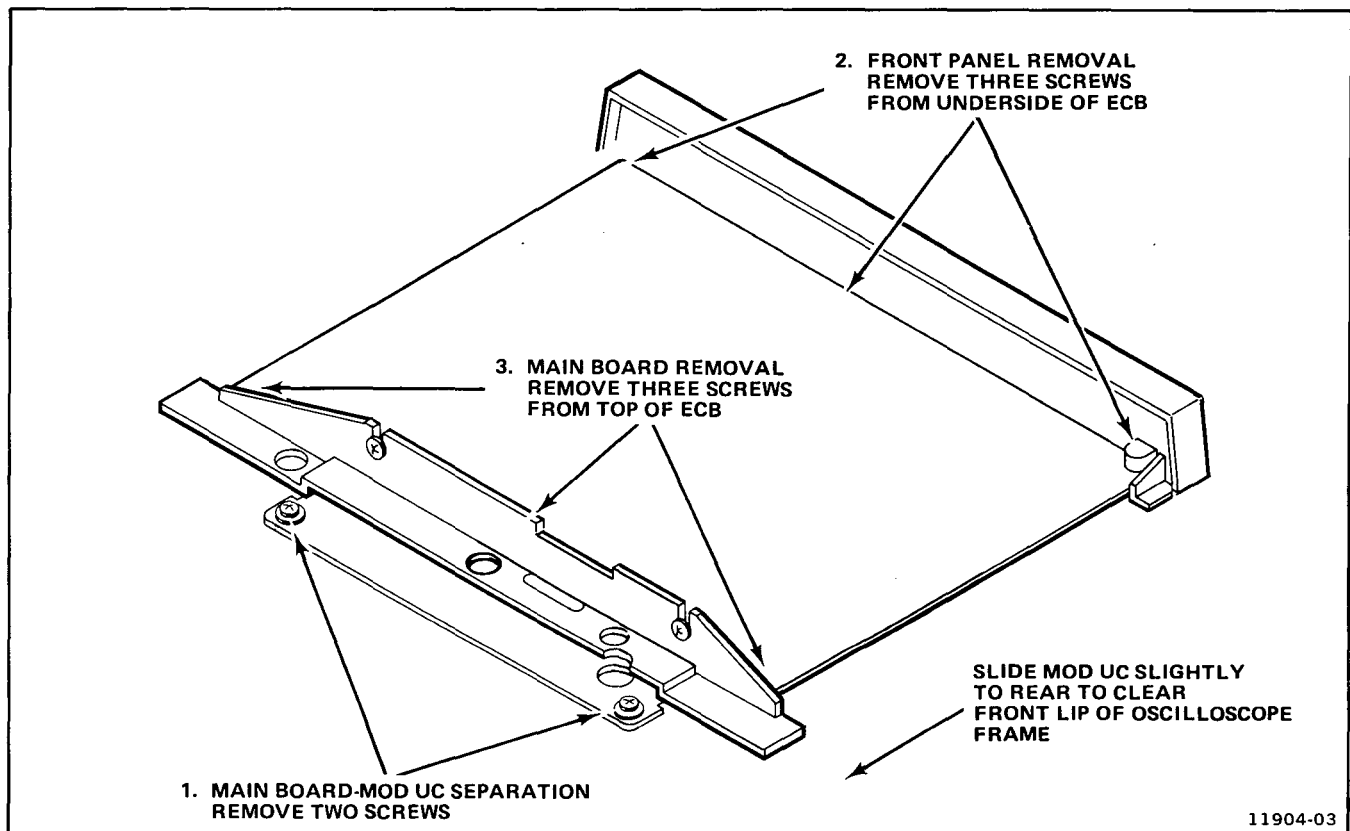

Figure 18. Mod UC and Oscilloscope separation.
5. Remove two screws from the rear of the Mod UC ECB support bracket. (Refer to Figure 18.)